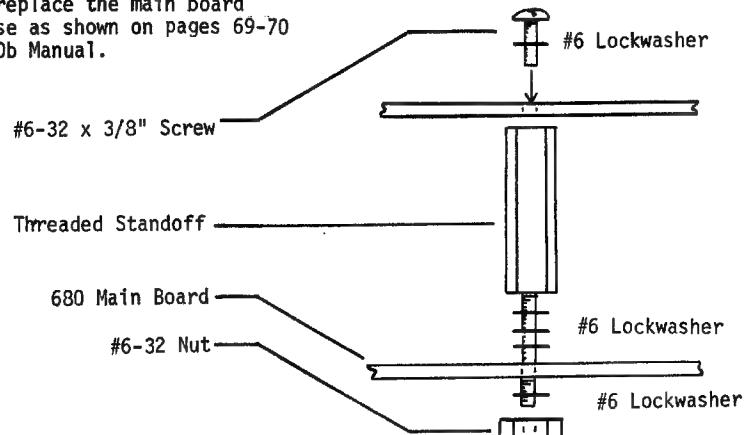

Figure 3-12. Installation of Threaded Standoffs onto 680b Main Board
B. Installation of Threaded Standoffs onto 680b Main Board (Figure 3-12)
2. Referring to Figure 3-12, insert a 6-32 x 7/8" threaded standoff with three #6 Lockwashers (Bag 6) in the mounting hole provided on each side of the main board.
4. Secure the board in place by inserting a 6-32 x 3/8" screw with a #6 lockwasher into the top of each of the threaded standoffs as shown in Figure 3-12.